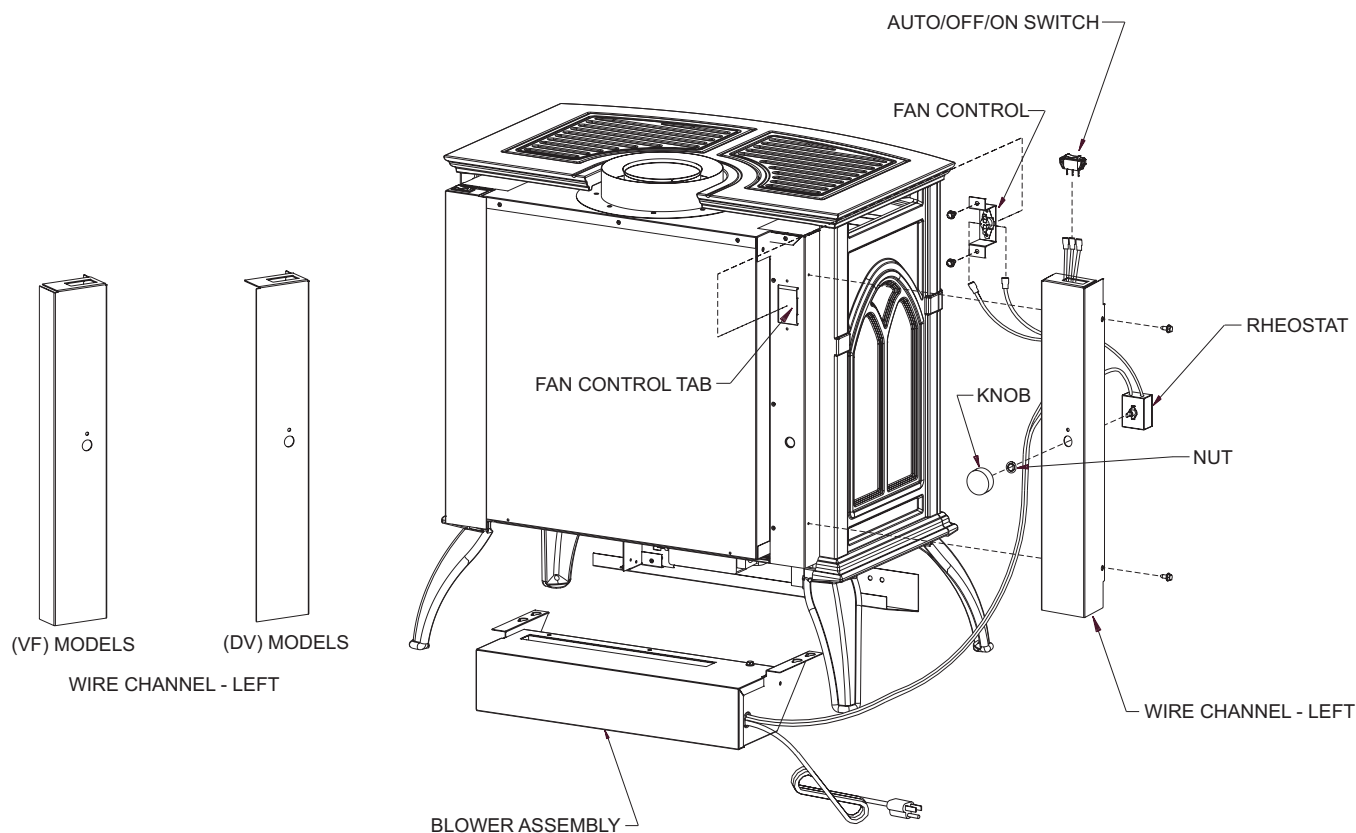

Figure 23
1. Loosen, but do not remove, four (4) hex-head screws located on the exterior, bottom of the appliance.
2. Position the blower assembly at the rear of the appliance. The blower assembly has four (4) keyholes for attachment to the exterior, bottom of the appliance.
3. Place the large diameter holes in the keyholes over and behind the four (4) hex-head screws that were loosened in Step 1. Push inward on the blower assembly to lock the keyholes into position behind the screws. Tighten four (4) hex-head screws to secure blower assembly to exterior, bottom of the appliance.
4. Remove wire channel-left from appliance by removing (2) 10 x 1/2" screws on left side of the appliance. Note: Some units require a new wire channel. If Rheostat mounting holes are missing from part removed from unit, discard wire channel removed from unit and continue installation with appropriate wire channel shipped with blower. See Figure 23.
13. Bend the fan control tab, located on the left side of the back of the unit, inward toward the unit. See Figure 23. Be sure tab is bent at least 90 degrees to allow fan control bracket to slide into slot.
14. Attach fan control with bracket onto rear cover with two (2) 10 x 1/2" screws provided in hardware package.
16. Attach wire channel to channel divider with two (2) 10 x 1/2" screws from Step 4.